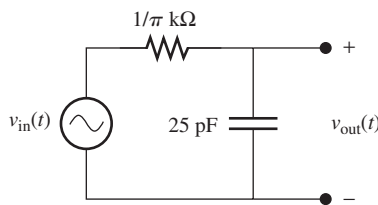

FIGURE P7.1 Circuit for Problem 7.1.
7.1 (B)* Find the transfer function for the filter of Figure P7.1: